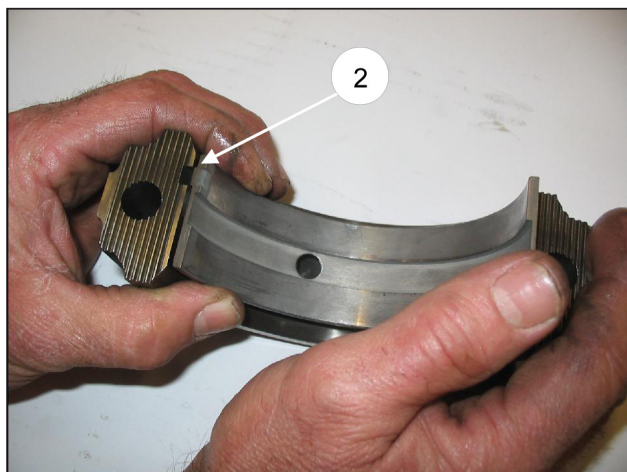

Fig. 6/a
If the piston guide rods have been disassembled, before reassembling them check the correct positioning of the sealing O-rings (pos. ①, Fig. 6/b) replace them if necessary. Tighten the piston guide rods through the respective two M6 screws to the tightening torque indicated in the table of page 30.